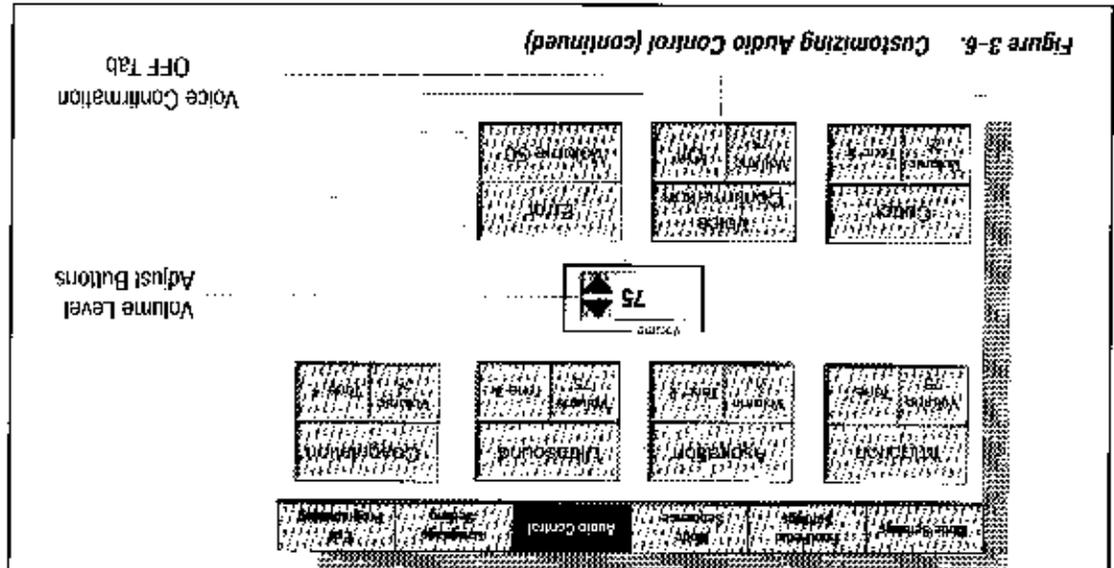

Figure 3-6. Customizing Audio Control (continued)
- **Audio Control**—Set the audio tones and volume for surgical functions and the error tone. Set voice confirmation volume or turn it off (see figure 3-6 on page 3-8).